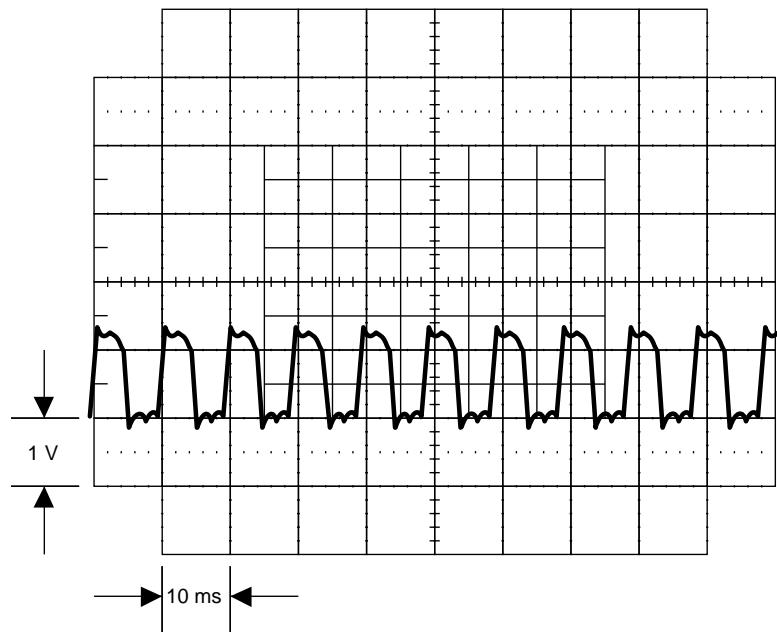

Figure 5-14. Waveform at TP13
4. Check the 6-12 MHZ signal. Set the 5700A to 2V at 1 kHz, operate. Connect an oscilloscope to TP13 and verify it displays a 10 Mhz signal similar to that shown in Figure 5-14. Also measure the frequency of this signal using a frequency counter and verify it is within 9.999 MHz to 10.001 MHz. If a failure is detected, with either test continue on as follows. If the signal and frequency are correct, skip to step 9.